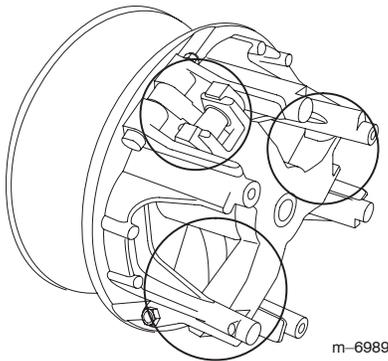

Figure 56
- Lubricate the moving parts in the areas circled in Figure 56 using Toro Dry Lubricant Spray, available through your Authorized Toro Dealer or Distributor.